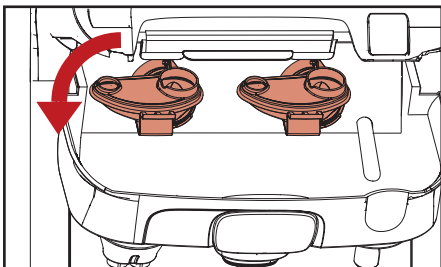

Fig. 5.10 - Remove mixing bowls
- b. Rotate the mixing bowls counter-clockwise to release and pull to remove them (fig. 5.10).